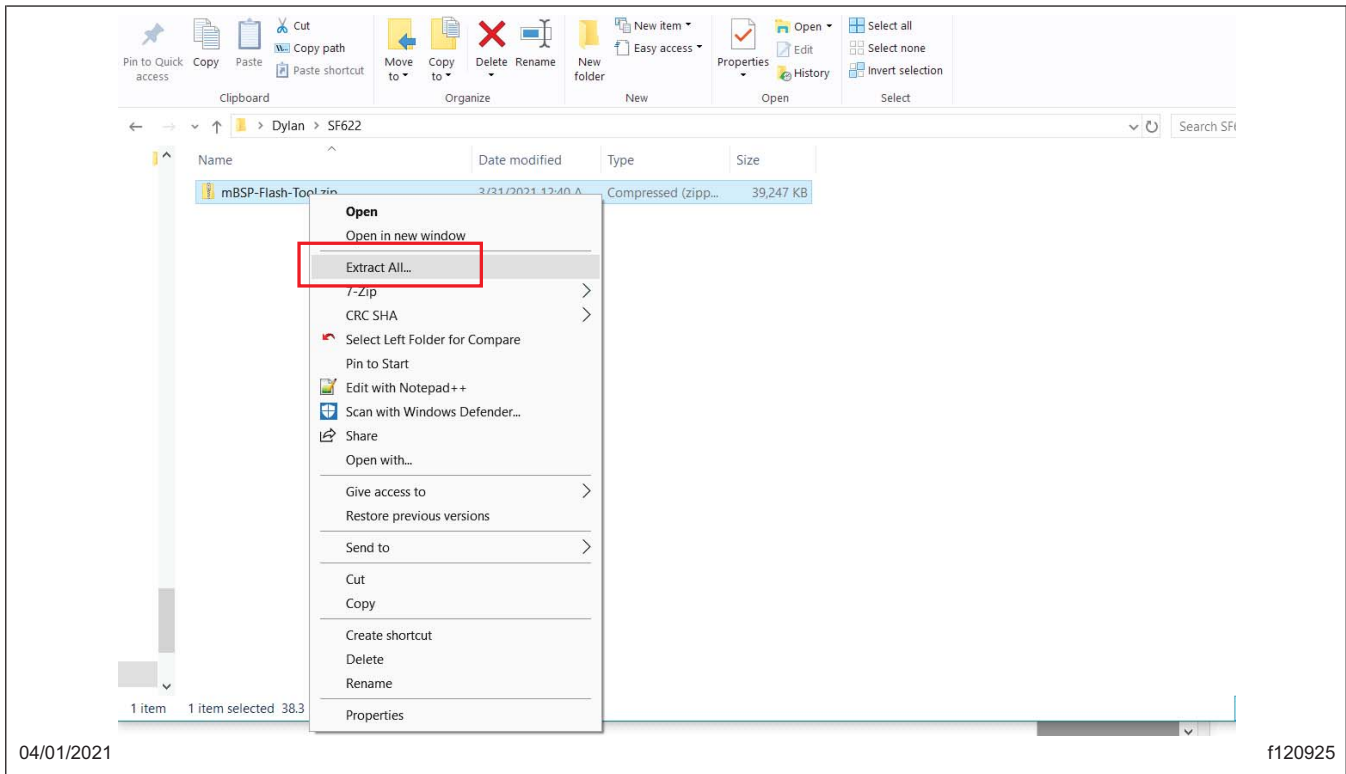

Fig. 6, Extracting the mBSP-Flash-Tool.zip File
6. Right click on the 'mBSP-Flash-Tool.zip' zip file and select 'Extract all.' See Fig. 6.